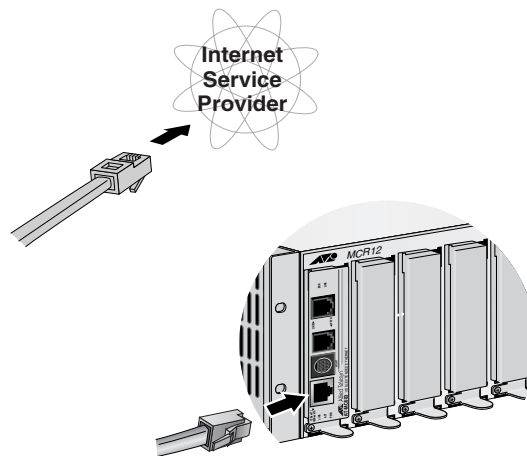

Figure 15 Ethernet to Internet Service Provider
1. First, connect the Ethernet cable from the Ethernet port to the Service Provider box in your wiring closet, as shown in Figure 15.